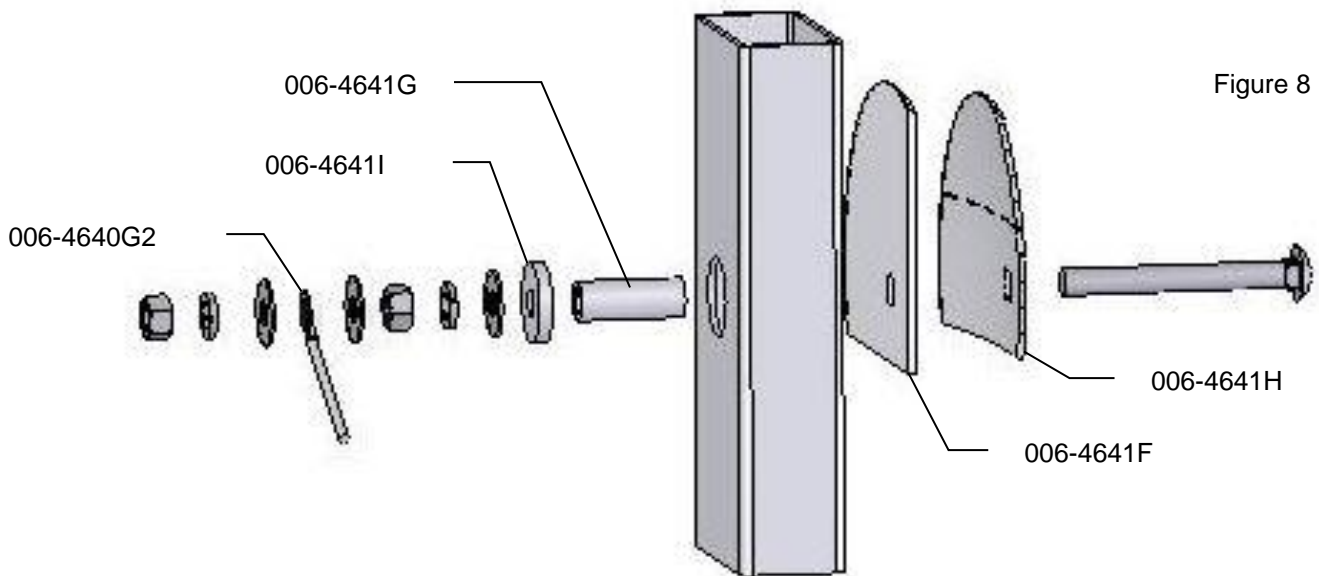

Figure 8
6. Locate the 006-4641G. The piece will need to be cut down to size. Use the already machined line in the bushing to cut off the small piece shown above. (Figure 8)